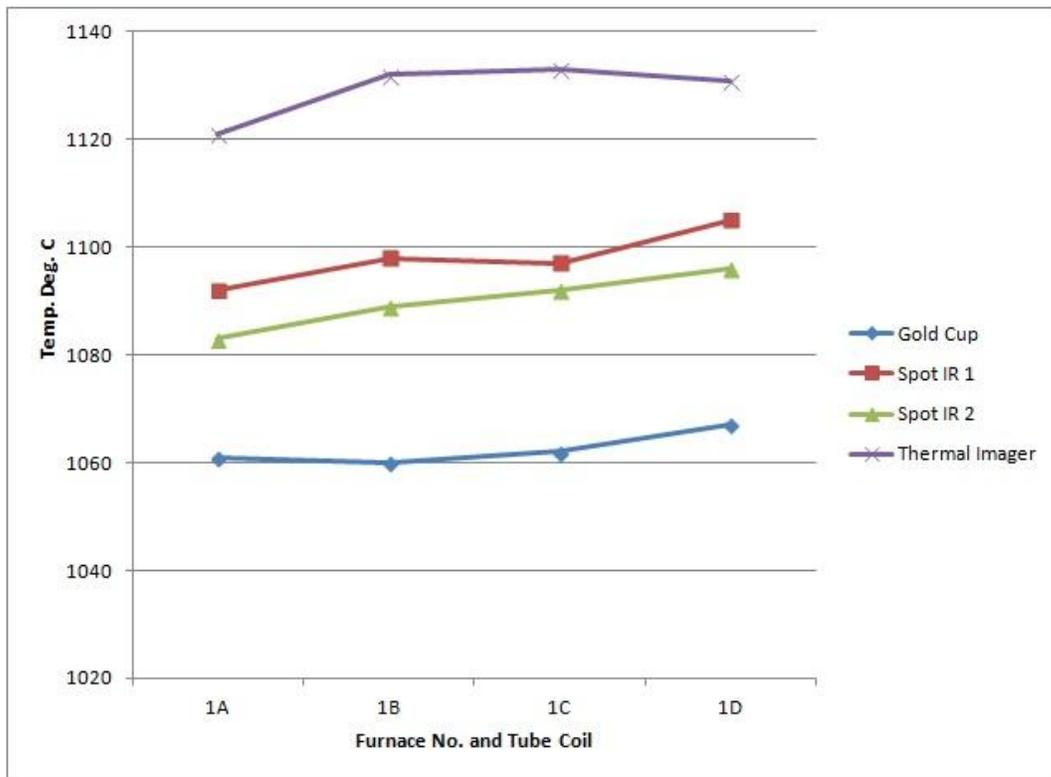

Figure 11: Temperature Data from Ethane Cracker Furnace #1
The following graphs are from three ethane cracker furnaces and show the temperatures of all methods used for this case study (Spot Infrared Pyrometers, Thermal Imager and Gold Cup Pyrometer) (Figures 11, 12 and 13):
1. The Gold Cup Pyrometer survey showed that the hottest tube of each heater was at a much lower temperature than what was being measured by all departments within the refinery and showed that they were incorrect in their assumptions of which department was yielding accurate temperatures (*Figures 11, 12 and 13*).
2. The Gold Cup Pyrometer survey revealed the inaccuracies and deficiencies of how each department was using their non-contact infrared measuring devices (*Figures 11, 12 and 13*).
5. The survey also revealed that there was an unacceptable difference between two identical spot infrared pyrometers and could be a result of calibration drift or improper use by the operator (*Figures 11, 12 and 13*).